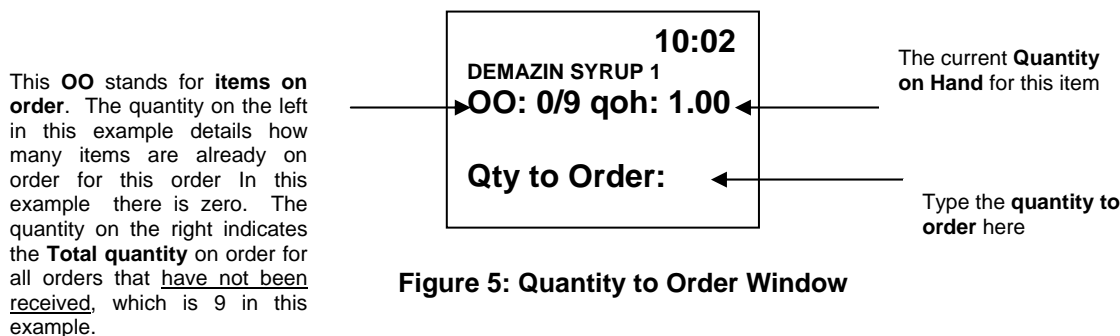

Figure 5: Quantity to Order Window
- Scan the Item to be added to the order, refer to Figure 5